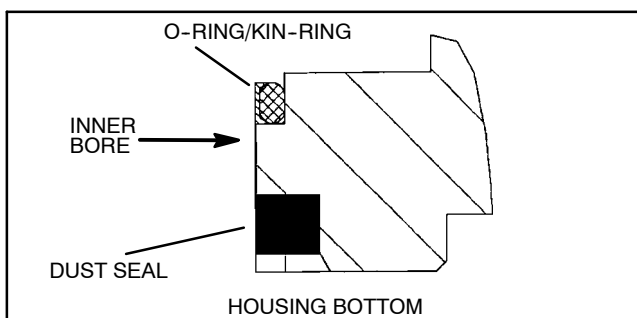

Figure 73
7. Coat new O-ring/kin-ring lightly with petroleum jelly. Install ring carefully into the inner bore of the housing so that they fit snugly in place (Fig. 73 and 74).